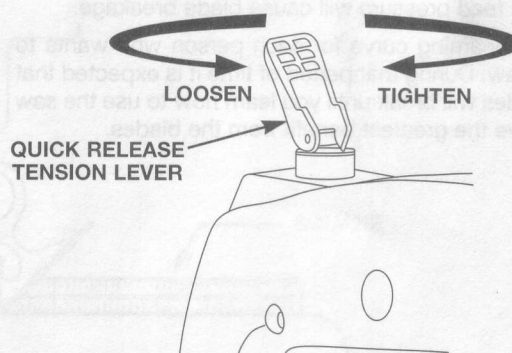

FIG. 7
1. Release blade tension by lifting up the Quick Release Tension Lever (Fig. 7).
ATTENTION: Moving the lever downward should require moderate, steady pressure only. If heavy pressure is needed, the blade is too tight. Loosen tension by rotating the Quick Release Tension Lever counterclockwise 1-2 turns, then reset the tension lever to the "down" position. If the tension lever is in the "down" position and the blade is too loose, you can increase tension by leaving the tension lever "down" and rotating it clockwise just until you feel the slack in the blade removed. Then turn the tension lever ONE full turn clockwise. This amount of blade pressure should do well for most cutting operations and blades (Fig. 7).